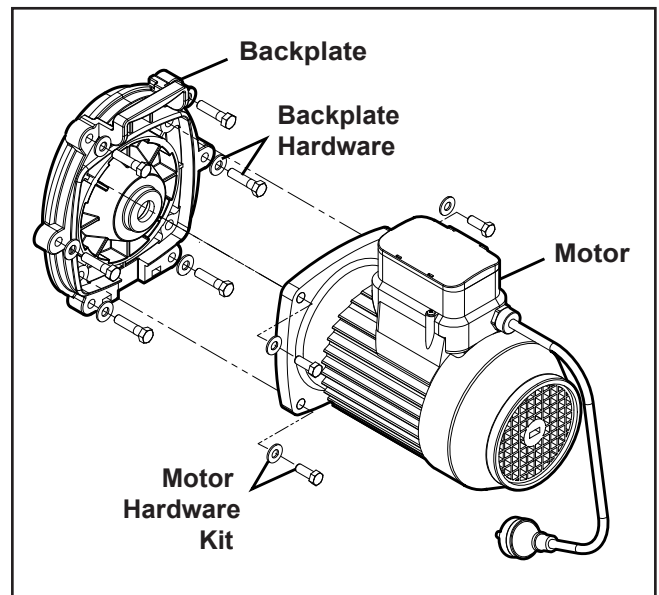

Figure 20. Backplate Assembly
3. Note the alignment of the backplate to the motor, as shown in Figure 20. Place the backplate motor assembly o-ring side down, unscrew the four 9/16" screws, and remove the motor.
5. Replace the four (4) bolts and washers holding the backplate to the motor and torque to 20 Nm. See Figure 20.